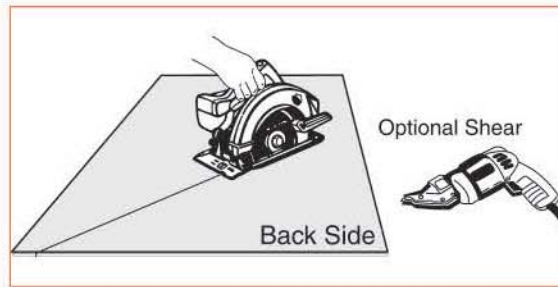

Figure 3
- Swivel-head 18 gauge shears (Figure 3, Page 8)
When cutting with a circular saw, position the panel so that the saw blade enters the front side of panel first to avoid chipping or damage. (Figure 3)